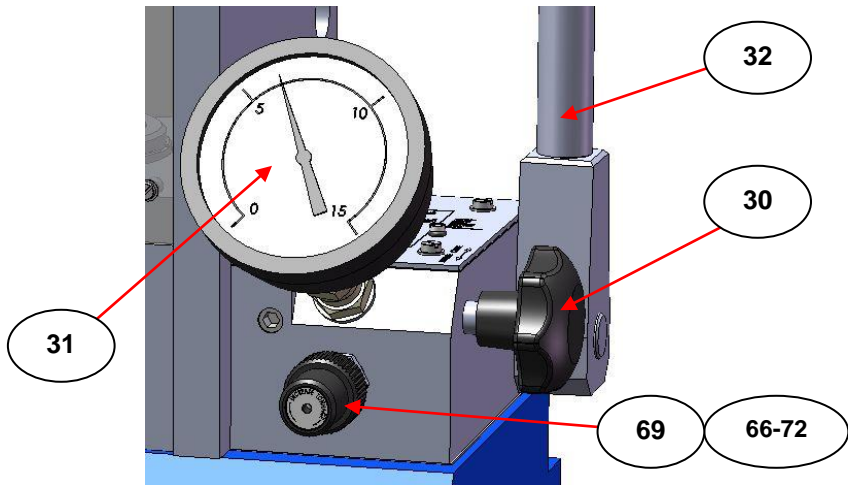

Fig 7. Pressure Relief Valve for Setting a Maximum Load
Beneath the pressure gauge (31) there is a pressure relief valve assembly (66 to 72) which may be set so that any load between 0-15 tons or 0-25 tons is the maximum load that can be obtained. (See Fig 7.) The relief valve set knob (69) can be rotated clockwise to increase the maximum pressure in the system, and hence the applied load, or rotated anticlockwise to decrease the pressure in the system.